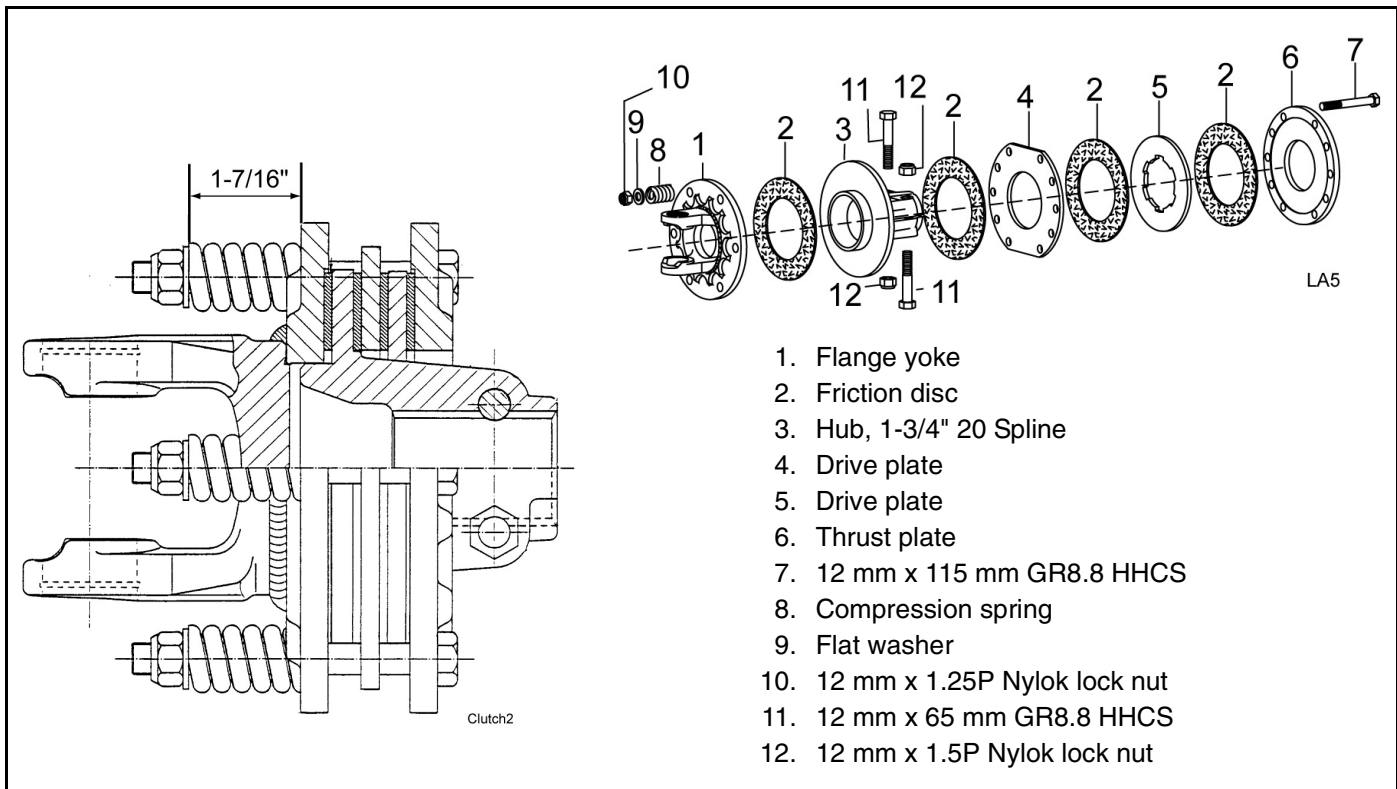

Figure 12. Slip Clutch Assembly
3. Loosen six 12 mm cap screws (7) to remove all tension from the compression springs (8).
4. Hold clutch hub (3) solid and turn shaft to make sure clutch slips.
5. If clutch does not slip freely, disassemble and clean the flange yoke (1), clutch hub (3), drive plate (4), drive plate (5), and thrust plate faces (6).
7. Compress each of the six compression springs (8) by tightening the six cap screws (7) and lock nuts (10). The compression springs should be compressed to a height of 1-7/16", not including washer (9). The minimum spring height is 1.36". See Figure 12.
8. If a clutch continues to slip when the springs are compressed to 1.36", check friction discs (2) for excessive wear. Discs are 1/8" when new. Replace discs after 1/16" wear.